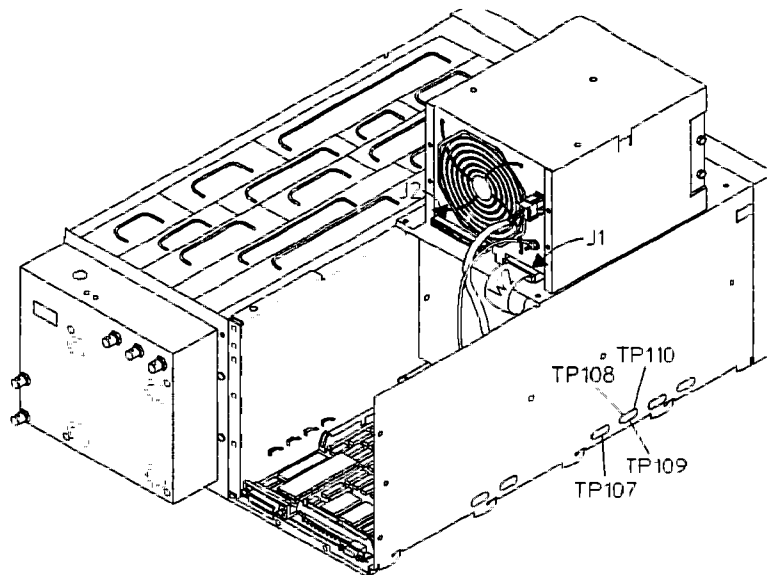

Figure 4-7. Memory Test Locations
2. Set the power switch to ON (1). Using a logic probe, check that the signals listed in table 4-6 are toggling (see figure 4-7). If the signals are toggling, the Memory assembly is probably faulty.